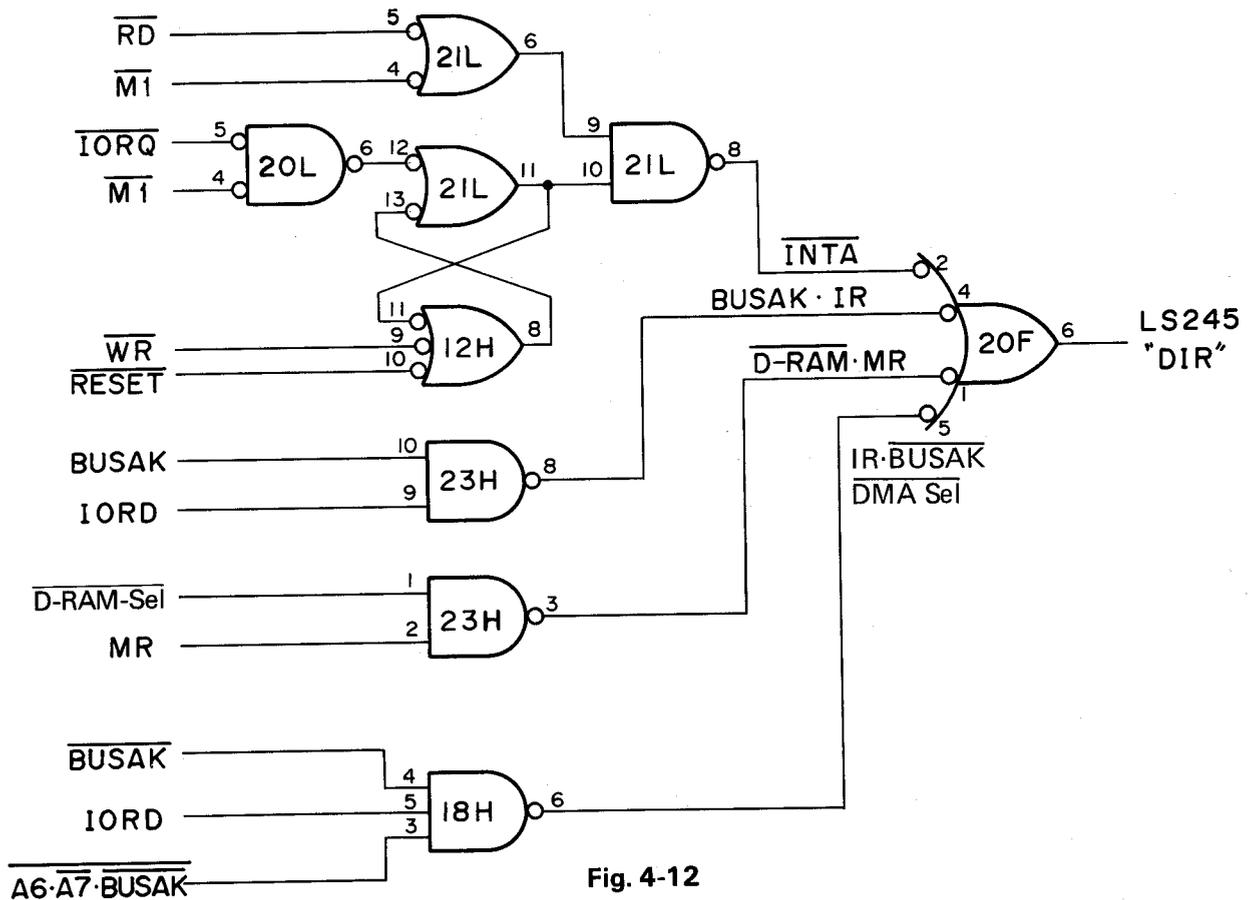

Fig. 4-12
As shown in Fig. 4-12, in any one of the above states (1) to (6), AND is taken by IC20F in this circuit and a high level signal is sent to the DIR terminal of LS245.